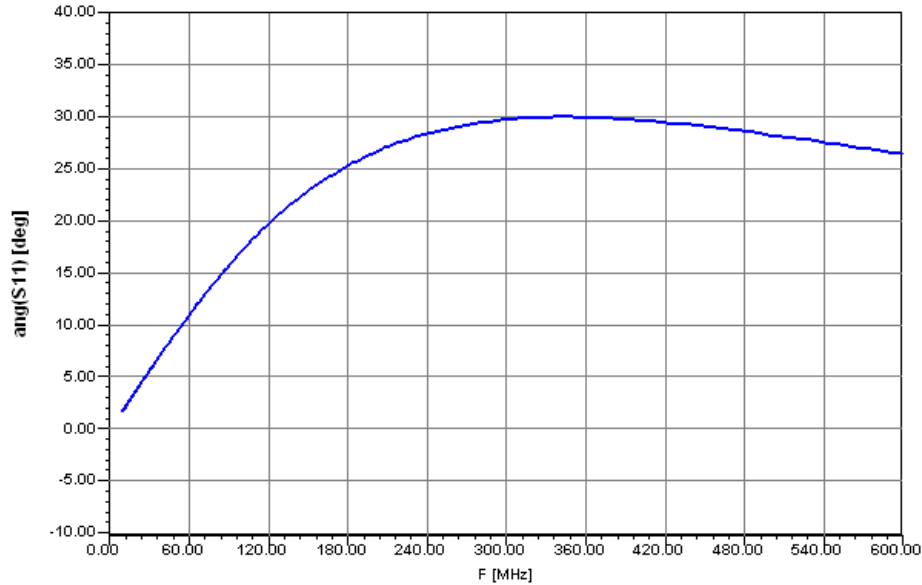

Figure 11. Re-creation of the network analyzer screen of Lab VI.
23. Lastly the trace is thin and sometimes hard to see when printed in black and white. So double click on the trace of the angle of S11. Select **Line Styles** and change the width to **20**. The resulting plot is roughly set to the scales of the network analyzer (at least when this author did it) and is shown in Fig. 11.